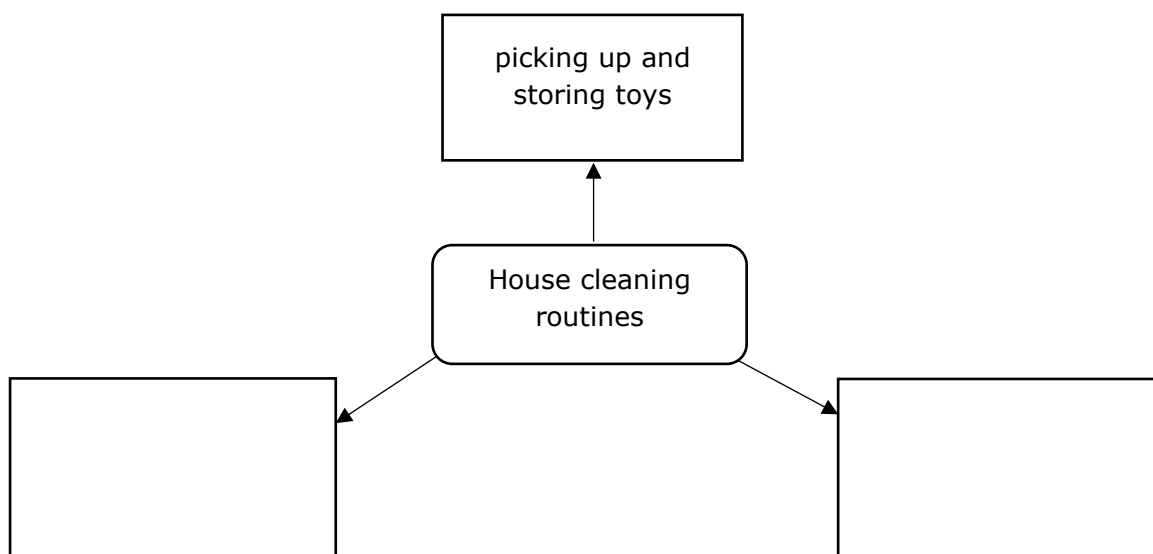

Figure 6
- a. Complete the web diagram in Figure 6 to explore further needs related to house cleaning routines which are not stated in the situation. One example has been provided. (1)